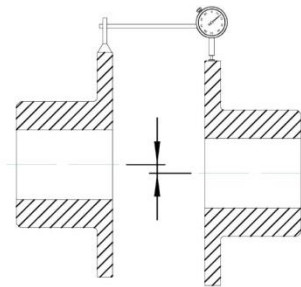

**Figure 3 – Disc Gap**
- c) The minimum and maximum values for dimension "N" shown in Figure 3 are given in Table 3. These dimensions are recommended for initial installation. Additional capacity is available to compensate for any application driven thermal and structural equipment movement. Maximum axial capacity is also shown in Table 3.
l) As a guide, measure the distance between flanges known as dimension "N" shown in Figure 3 and given in Table 3.